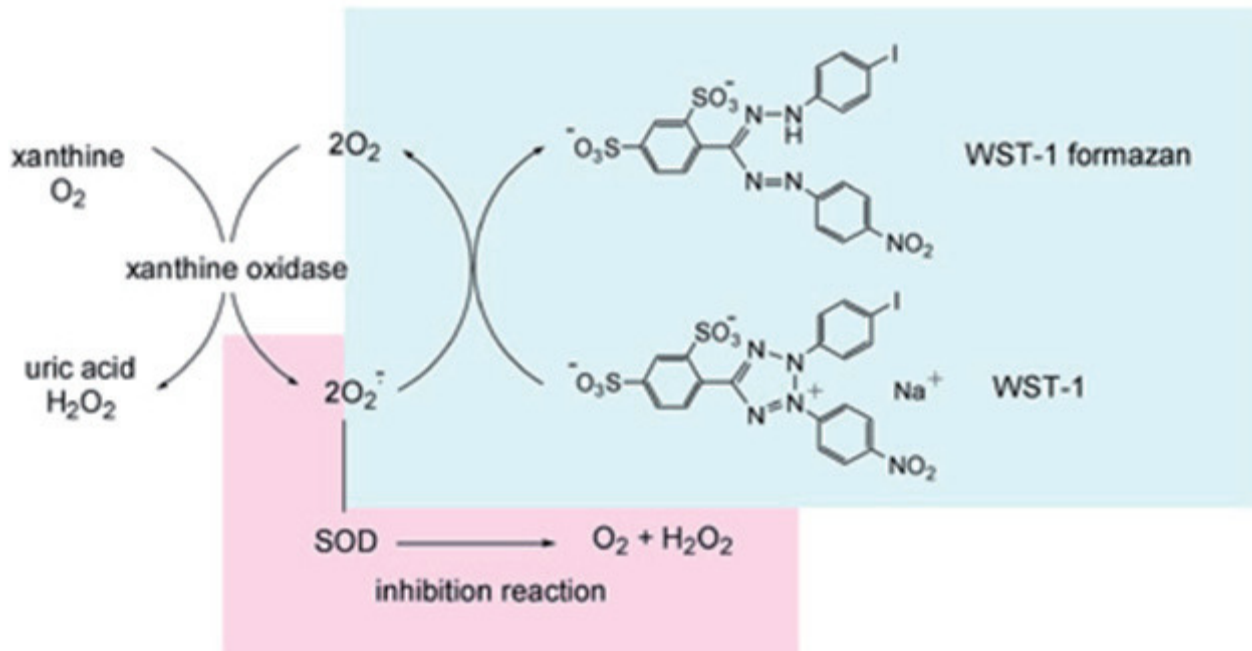

Fig. 1 Principle of the determination of SOD activity using SOD Assay Kit.
Superoxide Dismutase (SOD), which catalyzes the dismutation of the superoxide anion ( $O_2^-$ ) into hydrogen peroxide and molecular oxygen, is one of the most important antioxidative enzymes. In order to determine the SOD activity, several direct and indirect methods have been developed. Among these methods, an indirect method using nitroblue tetrazolium (NBT) is commonly used due to its convenience and ease of use. However, there are several disadvantages to the NBT method, such as poor water solubility of the formazan dye and the interaction with the reduced form of xanthine oxidase. The **K-ASSAY**® SOD Assay allows very convenient SOD assaying by utilizing **KAMIYA BIOMEDICAL COMPANY**'s highly water-soluble tetrazolium salt, WST-1 (2-(4-Iodophenyl)-3-(4-nitrophenyl)-5-(2,4-disulfophenyl)-2H-tetrazolium, monosodium salt) that produces a water-soluble formazan dye upon reduction with a superoxide anion. The rate of the reduction with  $O_2^-$  are linearly related to the xanthine oxidase (XO) activity, and is inhibited by SOD, as shown in Figure 1. Therefore, the  $IC_{50}$  (50% inhibition activity of SOD or SOD-like materials) can be determined by a colorimetric method.